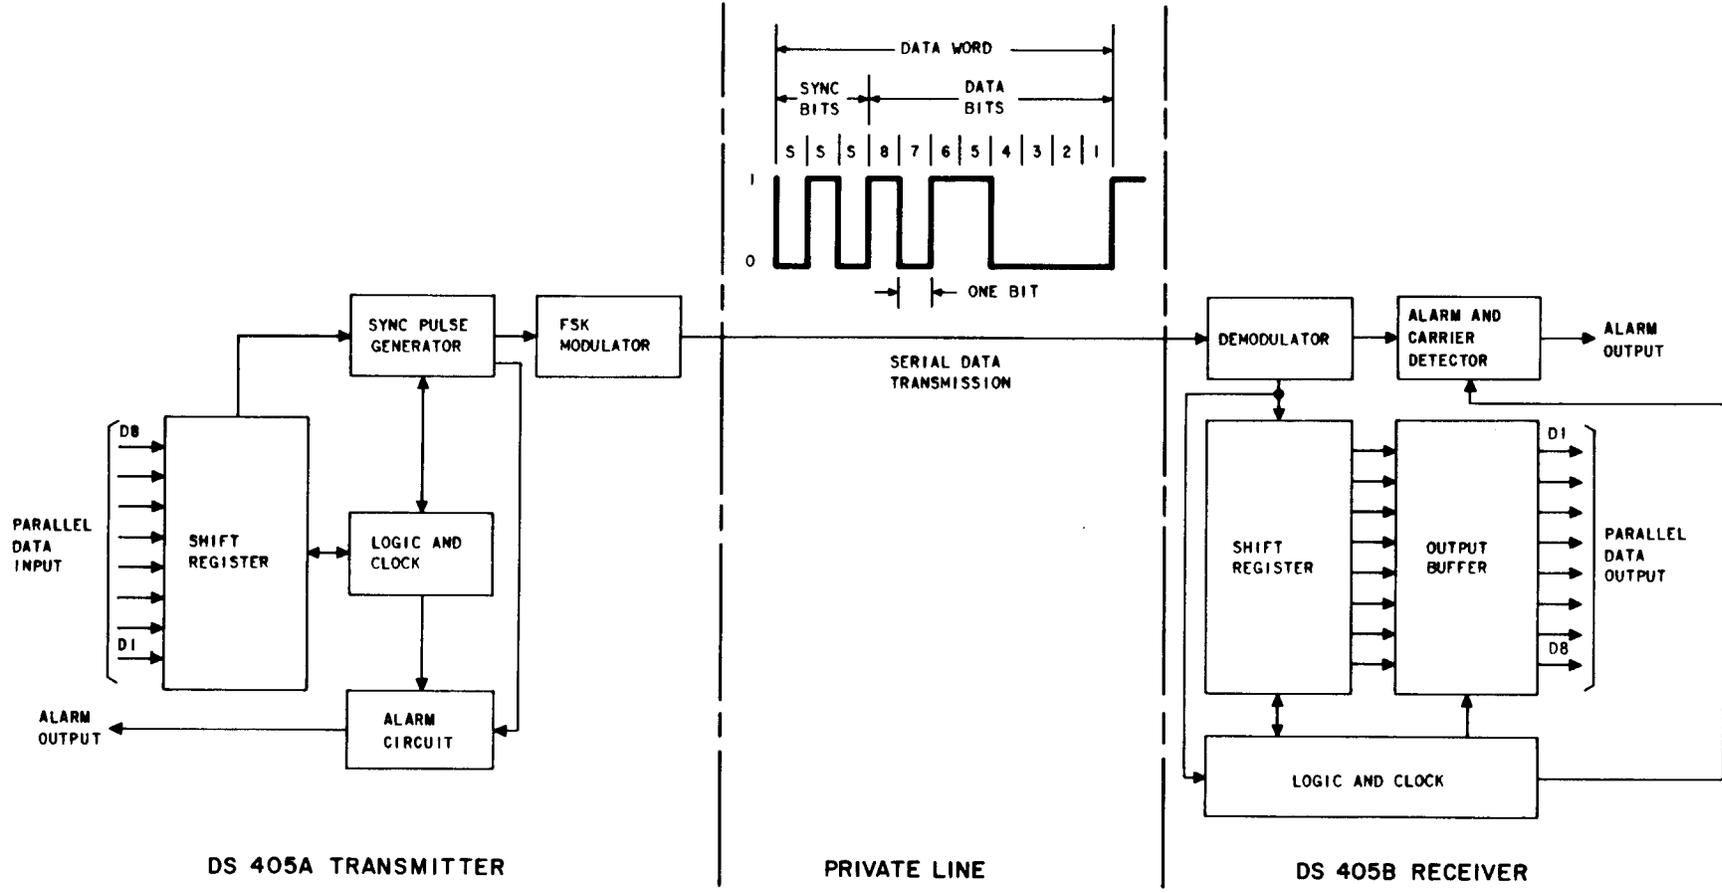

Fig. 1— Parallel-to-Serial Conversion, Serial Transmission, and Serial-to-Parallel Conversion
**1.01** Data set (DS) 405A is the transmitter and DS 405B is the receiver for the 405-type Data System. The transmitter samples inputs on 8, 20, or 32 data leads and loads the parallel data into a register. The transmitter then generates three sync pulses and sequentially adds pulses corresponding to the sampled data leads, thus converting the parallel data to serial format. The data "word" is composed of the 3 sync bits plus 8, 20, or 32 data bits (ie, the binary state of 8, 20, or 32 data leads). A block diagram of the 8-channel system is shown in Fig. 1. Transmission is at 700, 880, 1400 or 1760 bits per second (bps) over a voice grade private line. Transmission at 700 or 880 bps requires only a basic channel, while for 1400 bps transmission the line requires C1 conditioning, and for 1760 bps transmission, the line requires C2 conditioning. The receiver establishes synchronization, registers the serial data bits, and converts the serial data back to parallel form at the output. Both the transmitter and the receiver provide an alarm condition in case of some abnormalities. This practice provides supplemental information for data sets 405A and 405B which is not provided in the description, installation, and maintenance practices. One should be familiar with the contents of these practices, listed in Part 4, before reading this practice.